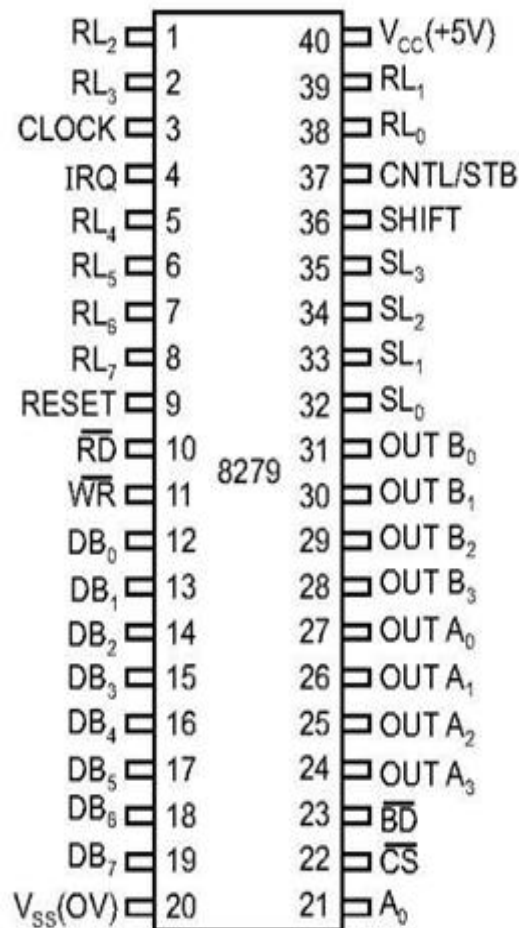

Figure 7 : Pin diagram of 8279
- A0: Selects data (0) or control/status (1) for reads and writes between micro and 8279.
- OUT A3-A0/B3-B0: Outputs that sends data to the most significant/least significant nibble of display as shown in Figure 7.